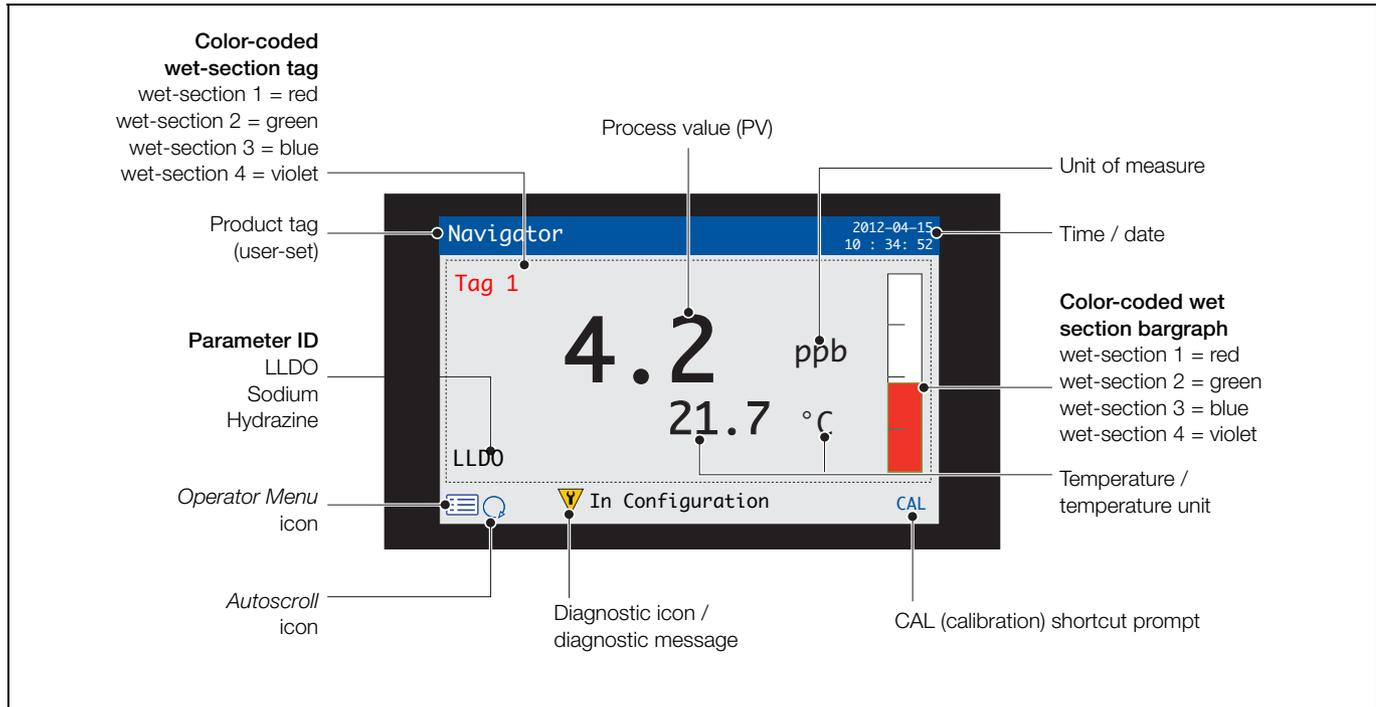

Fig. 6.5 *Operator Pages 2 to 5 – overview*
Fig. 6.5 shows an overview of *Operator Pages 2 to 5*. Each *Operator Page* displays the process value (PV) and temperature from a single wet-section. Fixed, color-coded, user-assignable tags (one for each fitted wet-section) and color-coded bargraphs aid identification of each wet-section.